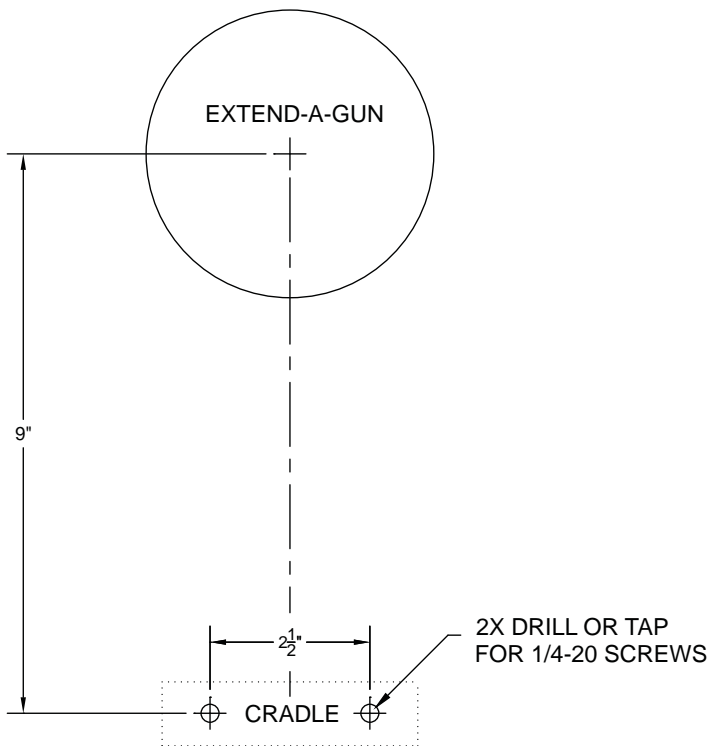

Figure 2
2. Drill or tap deck for two 1/4-20 screws according to Fig 2.